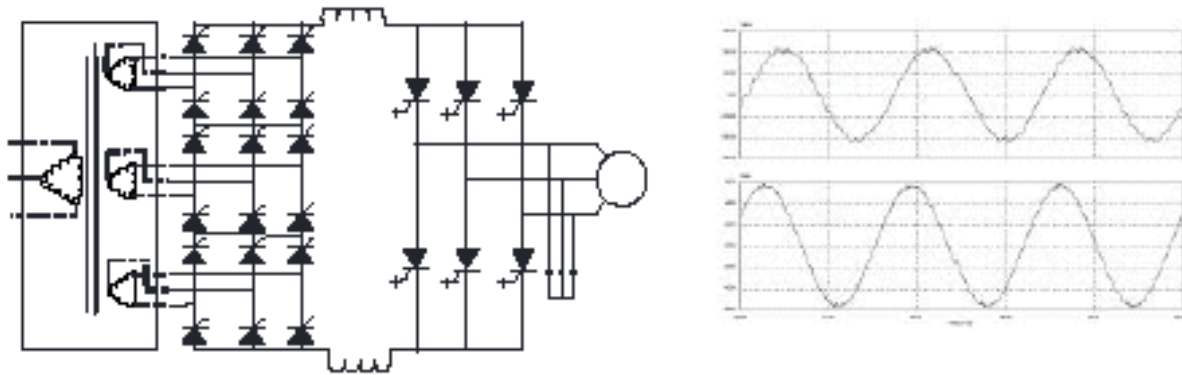

Figure 2 - 18-pulse rectifier and its input waveforms
- An **18-pulse phase-controlled rectifier** is shown in Figure 2. In an 18-pulse configuration, IEEE-519 requirements regarding harmonic distortion are met without the need for passive filters. However, a multi-winding isolation transformer is required to mitigate the low order harmonics by incorporating phase shifting principles. The resulting line current and voltage are shown in Figure 2. This option is a simple, highly efficient and easy to use one involving series rectifiers and only three sets of secondary windings on the isolation transformer. Due to the requirement for the isolation transformer, this option does carry with it a larger footprint that requires additional control room space.